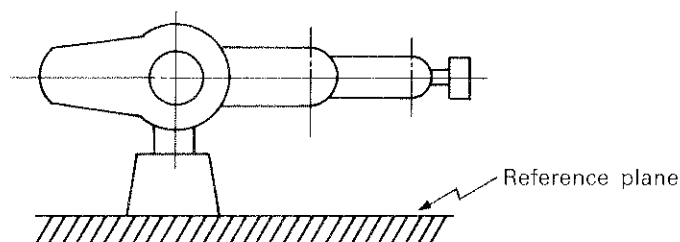

Fig. 5.4.1 Setting the Reference Position in the Cartesian Coordinate System
- (1) Using the teaching box, fully extend the robot arm so that it runs in parallel with the reference plane as shown in Fig. 5.4.1. At this time, the line joining centers of rotation in all joints, i.e., the shoulder, elbow, and wrist (pitch and roll), should be a straight line and run in parallel with the reference plane. Perform this operation as accurately as possible by using jigs: remember, positioning accuracy in the cartesian coordinate system is determined by this setting.